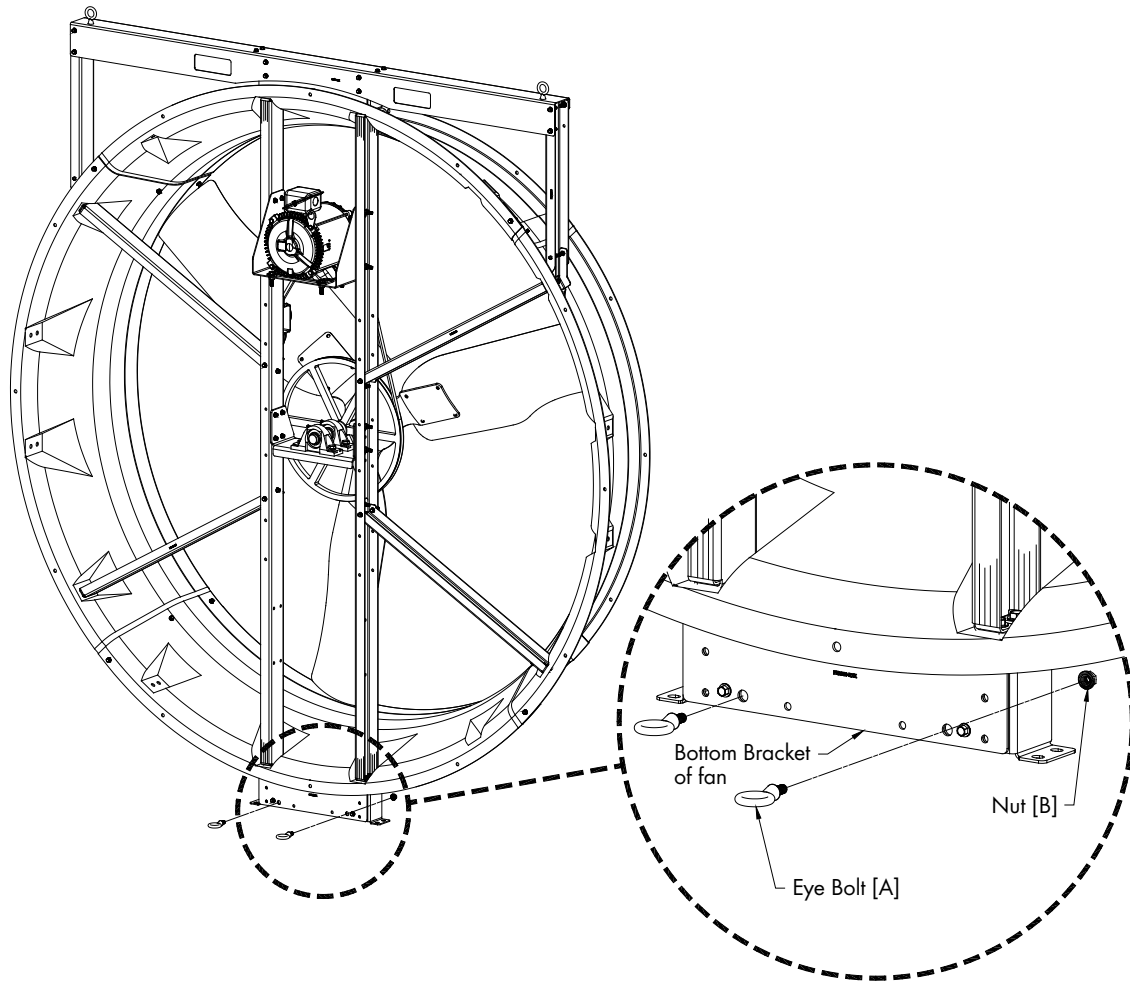

Figure 5
Install (2) Eye Bolts [A] to the bottom bracket of fan in the larger hole next to the pre-installed bolt with they eye on the motor side of the fan and secure in place using (2) Nuts [B]. See Figure 5.